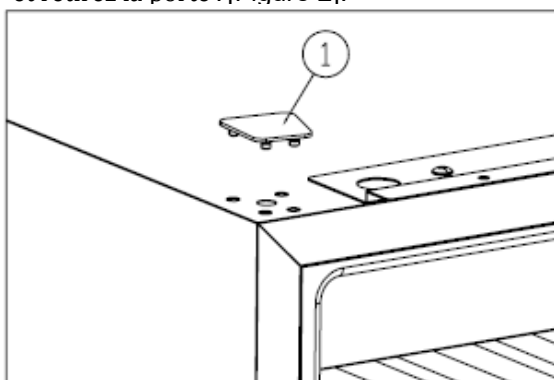

Figure 3
- Enlever le cache du joint ①. [Figure 3]